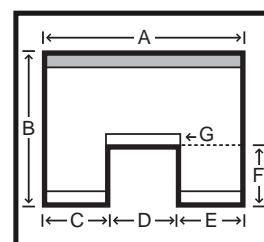

Figure 5 Bottom Cut Out
- Bottom cut out blinds (Figure 5) will have three bottom rails. Blinds will raise from "G" (shown in Figure 5) to head rail.